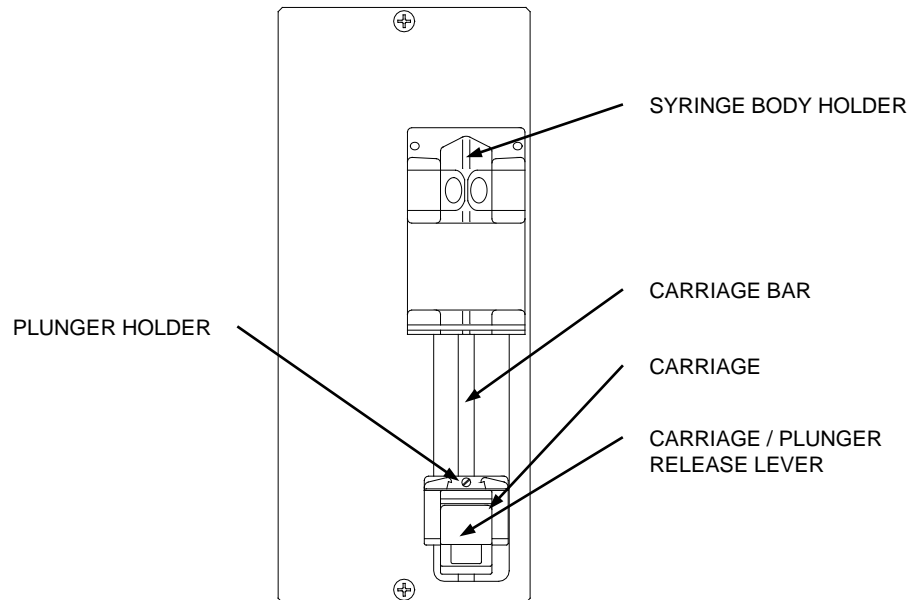

Figure 7. Heparin Pump Module.
6. When the carriage has stopped, clean the carriage bar (See Figure 7).